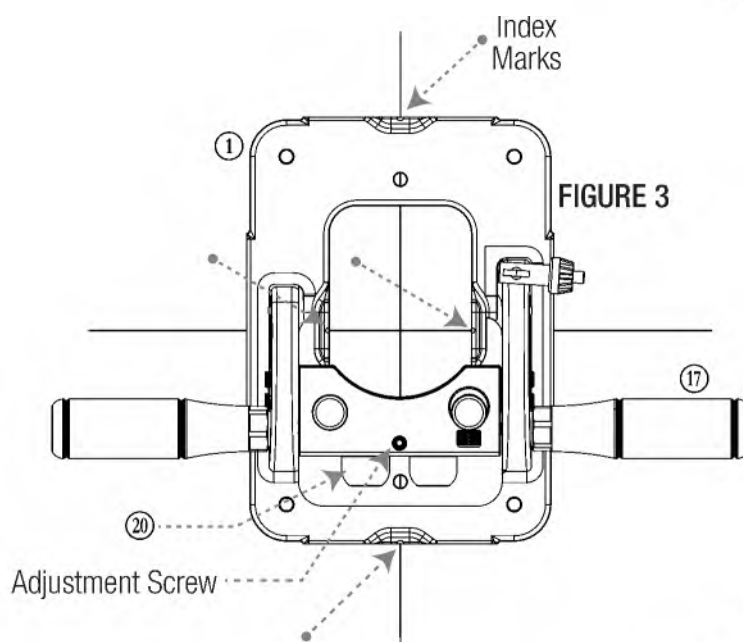

FIGURE 3
3. Line up the witness marks with the Index Marks on the Base (1). **NOTE:** Only 3 of the 4 Index Marks must align with your witness marks to accurately drill your desired location. **FIGURE 3.**
4. If a certain depth is required, loosen the knob on the Depth Control Stop Collar (10), set it to the desired height then secure prior to drilling.
5. Affix your drill to the Hex Shank Fitting (4) then push down and drill the hole.